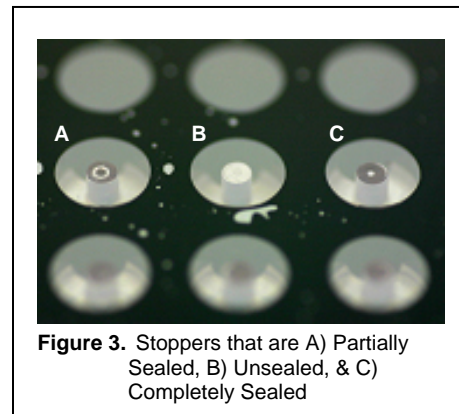

Figure 3. Stoppers that are A) Partially Sealed, B) Unsealed, & C) Completely Sealed
7. Visually inspect the underside of the populated 96-well plate to ensure that the bottom of the Oris™ Cell Seeding Stoppers are firmly sealed against the well bottom. To inspect the stoppers, turn the plate over and examine the stoppers for sealing (see Figure 3). If incomplete sealing is observed, return the plate to the upright position and use a sterile instrument to gently push the stopper back into the well until sealing is observed.